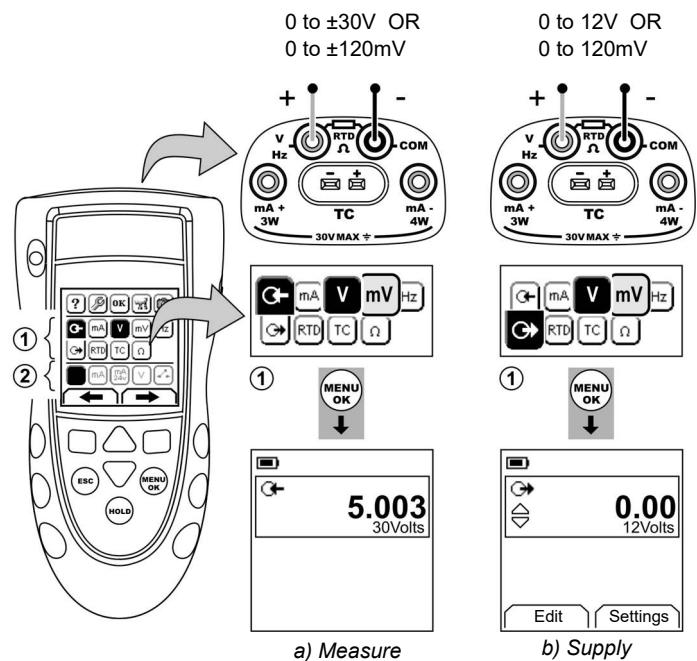

Figure 4: Example configuration - To measure/supply Volts or mV (Area ①)
1. Connect the instrument (Figure 4/5) and, if necessary, adjust the Set Up (Table 1).
2. Select the task from the task selection menu (Table 2/3). *Note: Use the Dual Function area (②) to do two operations at the same time. If the area ② selection is not necessary, set this area to off (■). This saves the battery power.*